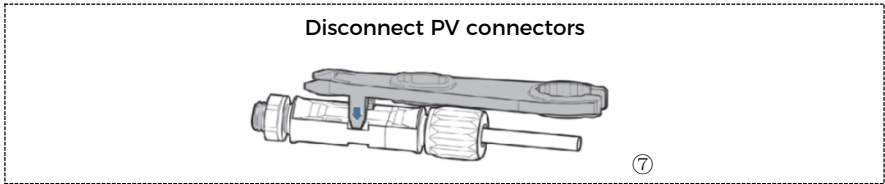

Fig. 4-2 Connect PV
Step 2 Remove the insulation layer with an appropriate length from the positive and negative power cables by using a wire stripper as show in Fig. 4-2①.
cannot be pulled out by force less than 400 N, as shown in Fig. 4-2②.
Step 4 Insert crimped power cables into corresponding housings until you hear a "click" sound. The power cables snap into place, as shown in Fig. 4-2③.
Step 5 Reinstall cable glands on positive and negative connectors and rotate them against the insulation covers, as shown in Fig. 4-2④.
Step 6 Insert the positive and negative connectors into corresponding PV terminals of the inverter until you hear a "click" sound, as shown in Fig. 4-2⑥.
To remove the positive and negative connectors from the inverter, insert a removal wrench into the bayonet and press the wrench with an appropriate strength, as shown in Fig. 4-2⑦.